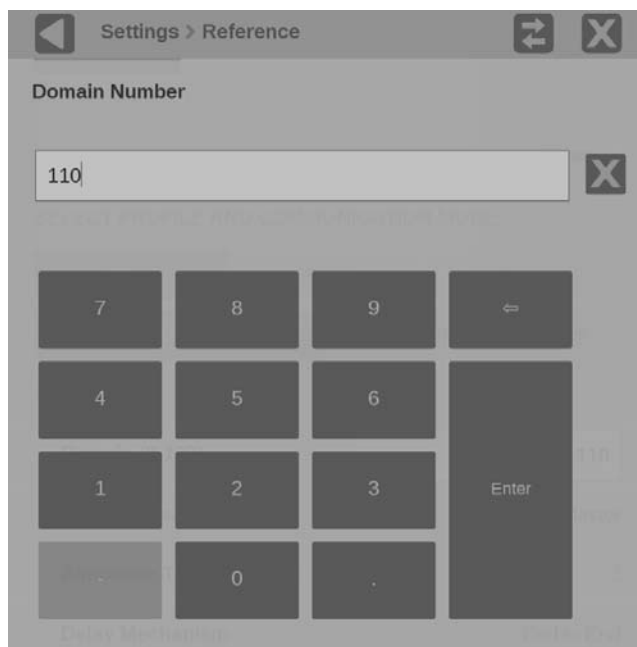

Figure 48: Editing the PTP domain setting
6. Touch the **Domain (0-127)** box to open the editing display. (See Figure 48.)